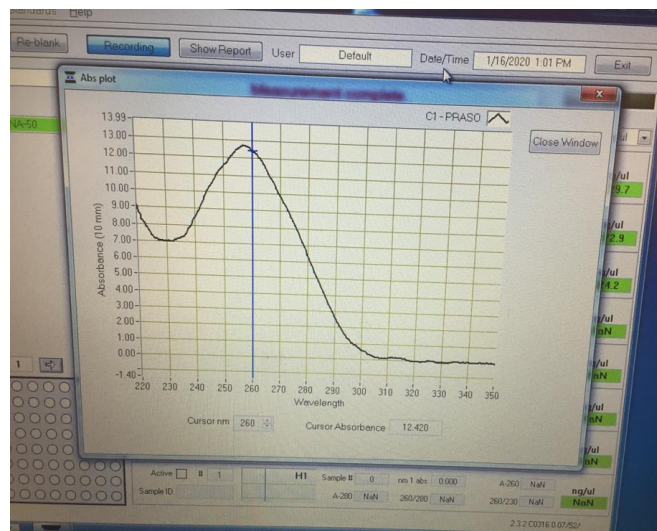

Figure 2.1: Expected 260 wavelength absorbance curve for DNA with acceptability quality.
- As a general rule of thumb, the accepted 260/280 wavelength ratio for DNA should range from 1.8 to 2.0 (Figure 2.1). Any significantly varying values, will be indicative of low-quality DNA with residues from the extraction process.